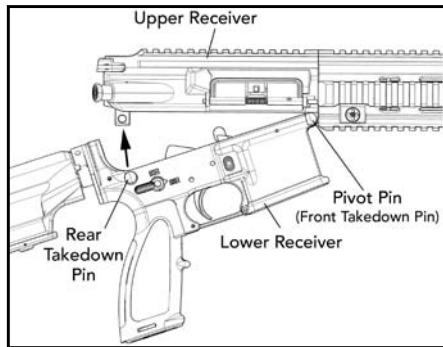

Fig. 65 – Closing Upper and Lower Receiver
- c. Mount the lower receiver to the upper receiver. Drift the front pivot pin from right to left. The pivot pin will not completely lock but it will engage the upper receiver (Fig. 65).